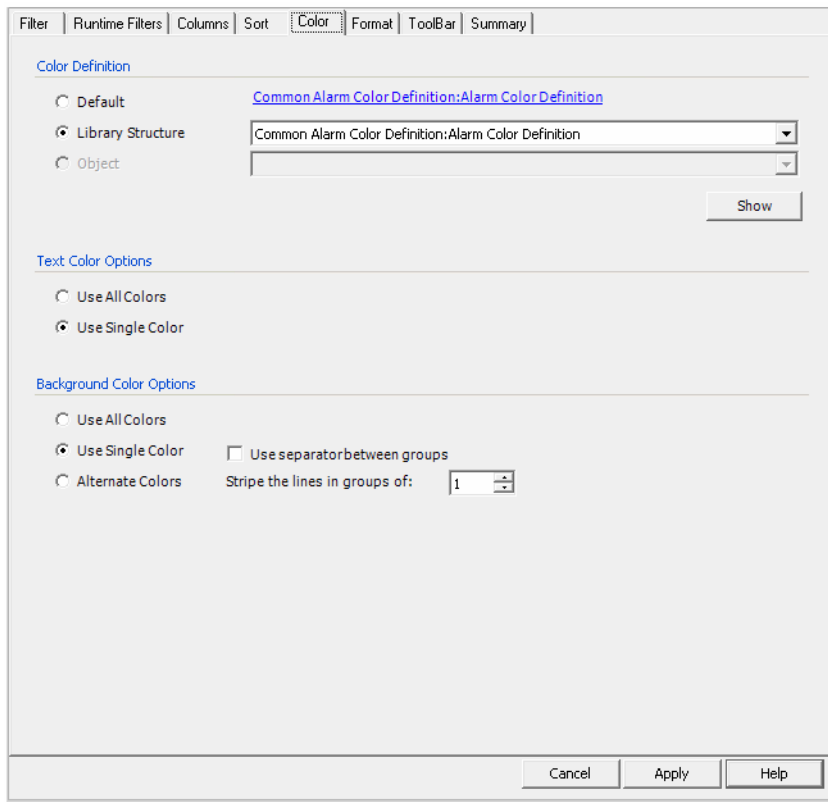

Figure 145. Color Tab
- In the **List Alternating Background Colors** area you specify which background colors that will be alternated when alarms are displayed in the alarm and event list. This setting only applies when you have selected Alternate Colors in the Colors tab in the alarm and event list configuration, see Figure 145.
**Color Tab.** The **Color** tab is used for specifying the color definition that the list configuration should use. See Figure 145.